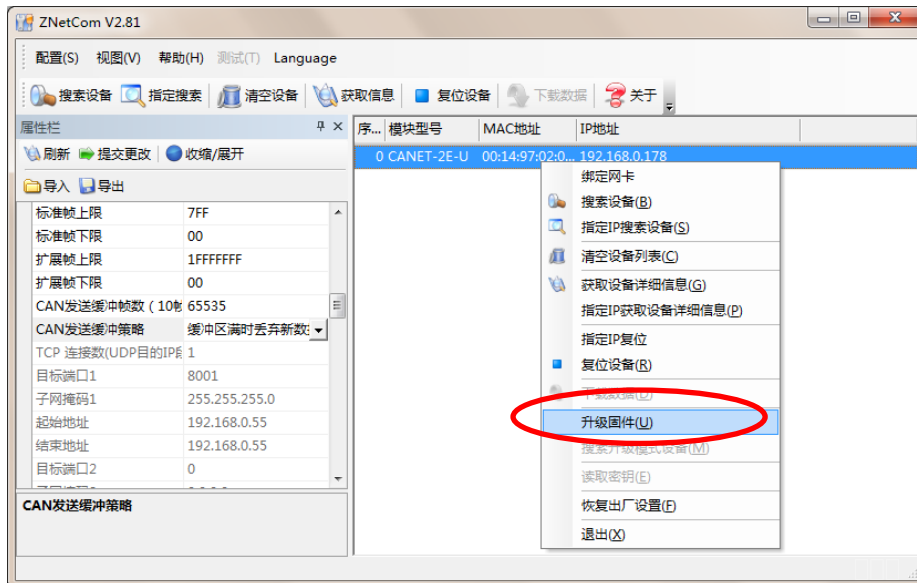

Figure 5.17 Firmware upgrade menu
1. In the device list column of ZNetCom software, select the device to be upgraded in the list item, and right-click the mouse. The menu items appear, as shown in Figure 5.17.